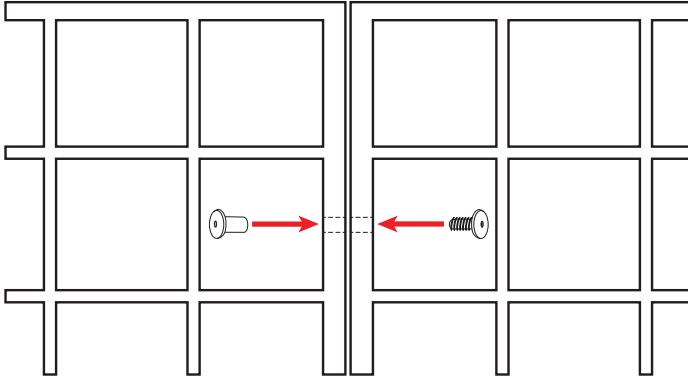
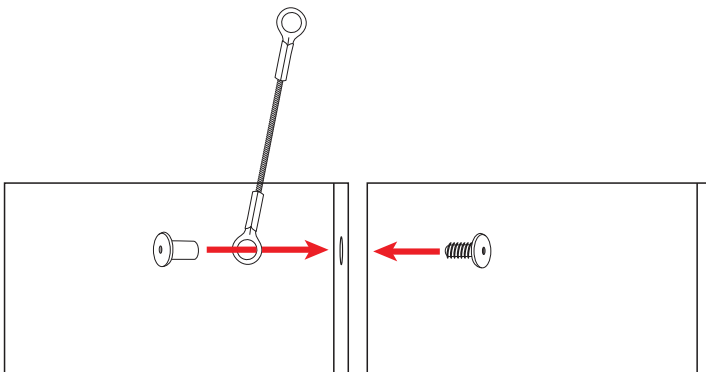

Figure 3
Figure 4
② **Mark & Drill Holes:** Using the supplied template, mark the locations for the supplied connector bolts and drill the holes. To minimize the chance of splitting the Bamboo, we recommend drilling each hole in two steps. Make the initial hole with a 1/4" drill followed by a 3/8" bit to bring the hole to the proper size. We also recommend using sharp or new drill bits for best results. Circled areas in the above illustrations are recommended suspension cable attachment points (see figure 4 for more detail). Your situation may vary.
- ③ **Bolt Together:** Prior to assembly, determine which connector bolt pairs will include the suspension cables and assemble per the illustration below. Insert connector nut into hole from inside of **WaveLens** (see figure 4). Line up holes of opposite **WaveLens** and thread the connector bolt in to the connector nut (see figure 3). Secure on both sides with the supplied hex wrenches. **Do not over tighten to avoid splitting the bamboo.** Repeat for each connection